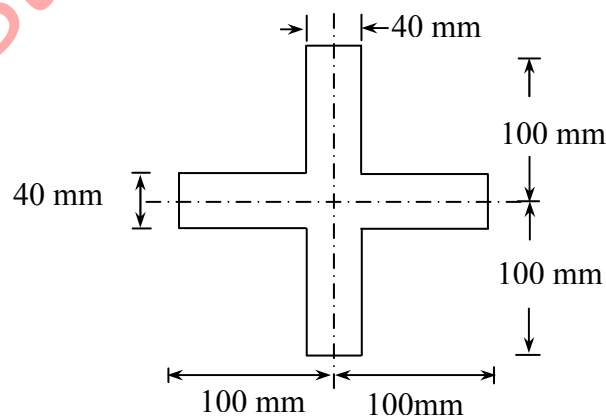

Figure 1.
- (1) The ratio of collapse load of a propped cantilever of span ' l ' carrying a uniformly distributed load throughout the span to that of a simply-supported beam carrying the same load is _____ (1.457, 1.5, 2.0, 3.0).
- (2) The shape of the cross-section, which has the largest shape factor, is _____ (Rectangular, I-section, diamond, solid circular).
- (3) In the theory of plastic bending of beams, the ratio of plastic moment to yield moment is called _____ (Shape factor, plastic section modulus, modulus of resilience, rigidity modulus).
- (4) In the theory of plastic bending of beams, the ratio of the collapse load to the working load is called _____ (Load factor, shape factor, factor of safety, plastic section modulus).
- Q.2** (a) Calculate the shape factor for the section shown in Figure 1. **07**